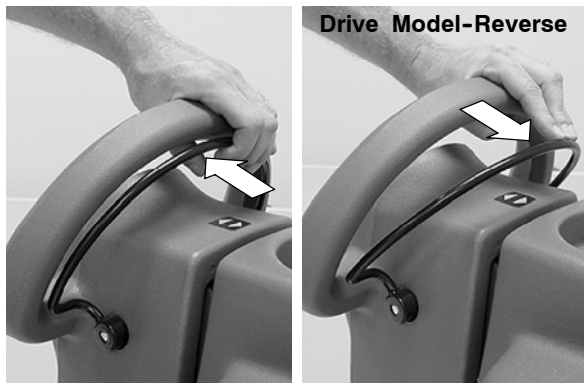

FIG. 19
5. Pull the activation bail towards you to start scrubbing (Figure 19). The drive model will automatically propel forward. To reverse the drive model, simply push the activation bail forward.